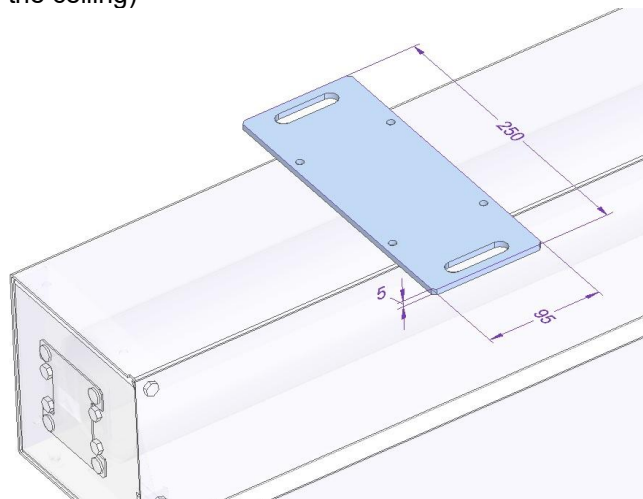

Fig. 10 Types of brackets.
1. In the bearing element, mount threaded rods M10 or M12 of a proper length so that they will correspond to the arrangement of the installation handles (Fig. 10). To fix the threaded rods, use fasteners suitable for the material of the bearing element (e.g. anchors HK8 HILTI).